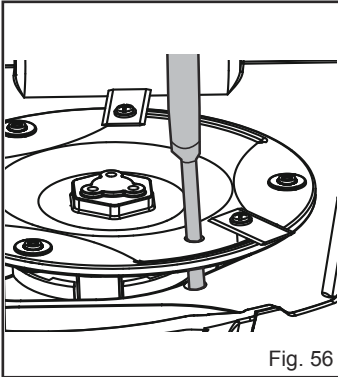

Fig. 56
- Use a suitable tool (e.g., a screwdriver) to insert into one of three holes in the blade disc to fix it in place (Fig. 56). This ensures the blade disc is not turning when replacing the blades to avoid personal injury.